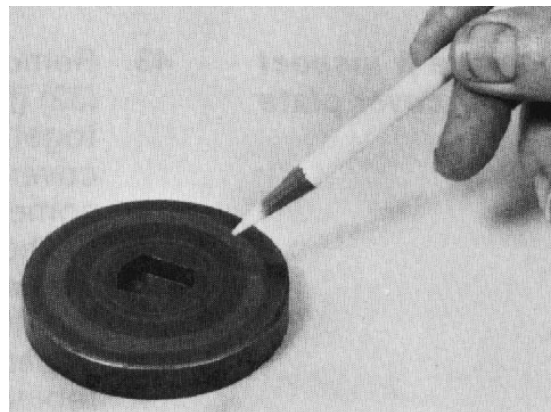

Figure 53
39. Inspect the thrust bearing side of the drive plate (Fig. 53) for brinelling (dents) or spalling (flaking). The flat sides of the input shaft engagement hole should not be grooved or worn. If any of these conditions in steps 38 and 39 are present, the drive plate must be replaced.